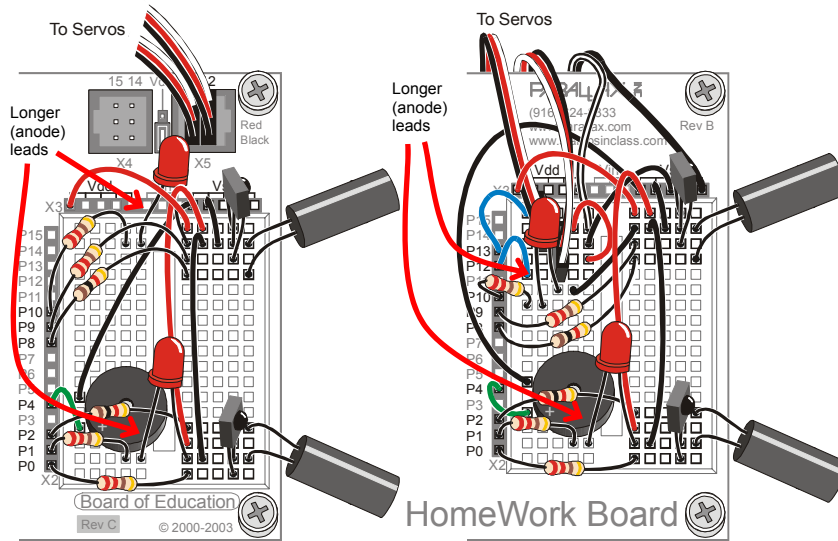

Figure 3-2
Figure 3-1 shows the circuits for IR detection and user indicators from *Robotics with the Boe-Bot*, Chapter 7, Activity #2, and Figure 3-2 shows a way to build these circuits with wiring diagrams.
- √ Build the circuits shown in Figure 3-1 and Figure 3-2.